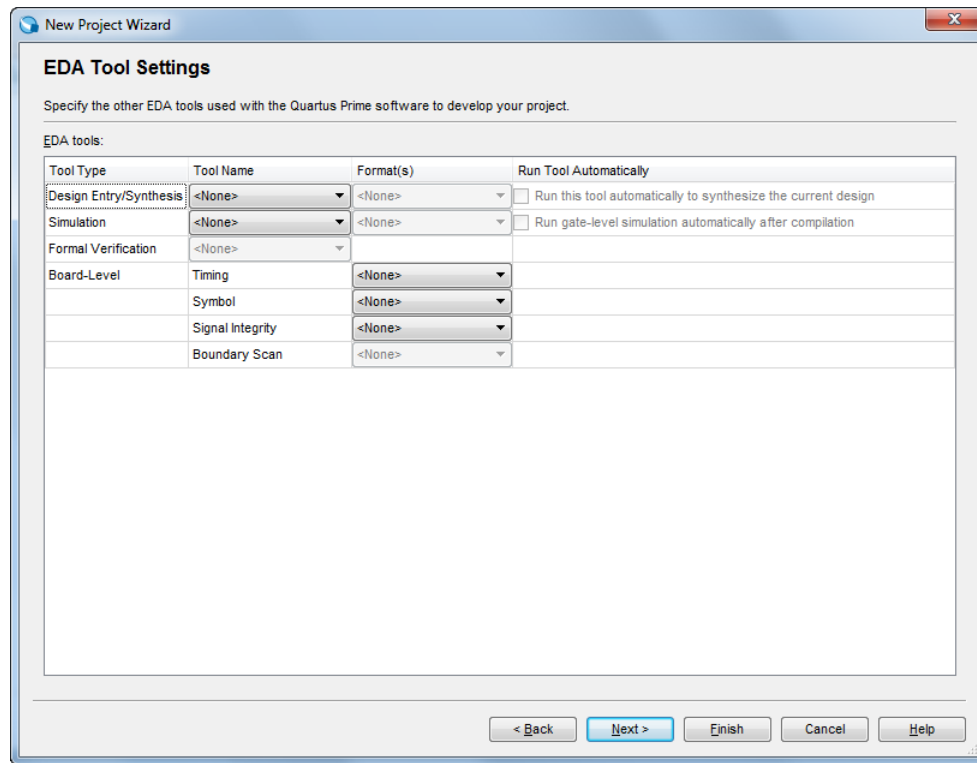

Figure 9. Other EDA tools can be specified.
- We have to specify the type of device in which the designed circuit will be implemented. Choose the **Cyclone-series** device family for your DE-series board. We can let Quartus Prime software select a specific device in the family, or we can choose the device explicitly. We will take the latter approach. From the list of available devices, choose the appropriate device name for your DE-series board. A list of devices names on DE-series boards can be found in Table 1. Press Next, which opens the window in Figure 9.